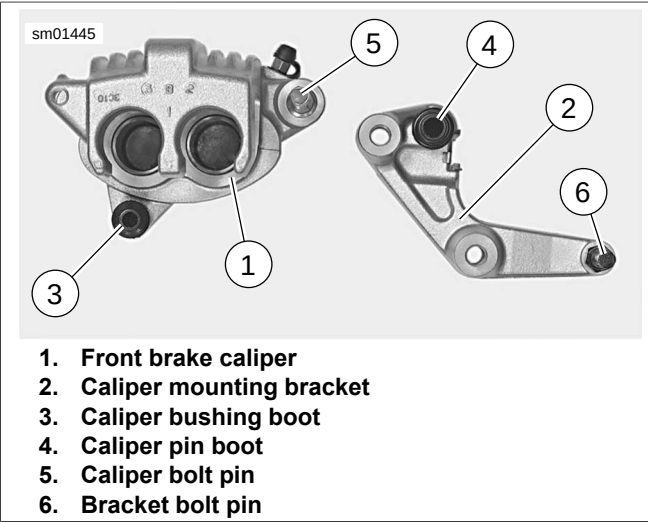

Figure 2-70. Lubricating Caliper Boots and Pins
1. See Figure 2-70. Apply approximately 0.4 g of G40M BRAKE GREASE inside caliper bushing boot (3) and caliper pin boot (4).